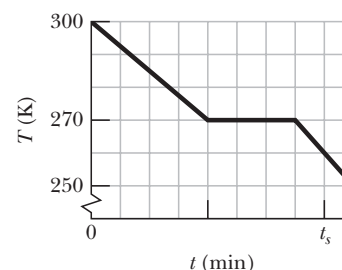

Fig. 18-32 Problem 30.
•30 A 0.400 kg sample is placed in a cooling apparatus that removes energy as heat at a constant rate. Figure 18-32 gives the temperature T of the sample versus time t ; the horizontal scale is set by $t_s = 80.0\text{ min}$. The sample freezes during the energy removal. The